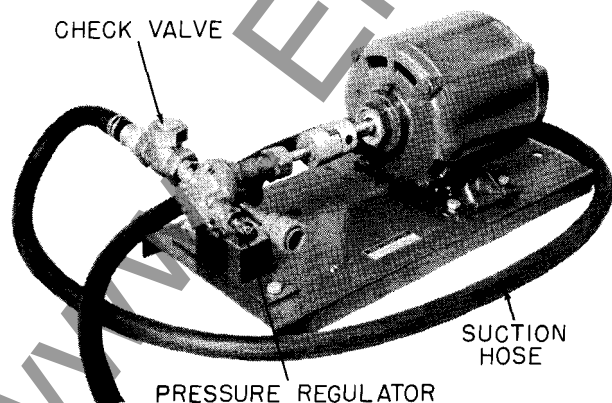

Fig. 5 Adhesive Pump
**Adhesive Pump.** A motor driven gear pump is supplied to apply adhesive. It is recommended that this motor-pump be lagged to the floor close to the panel side of the cabinet. See Fig. 5. Be careful not to distort the base. Be sure the pump does not obstruct the clearance required in front of the cabinet panel.